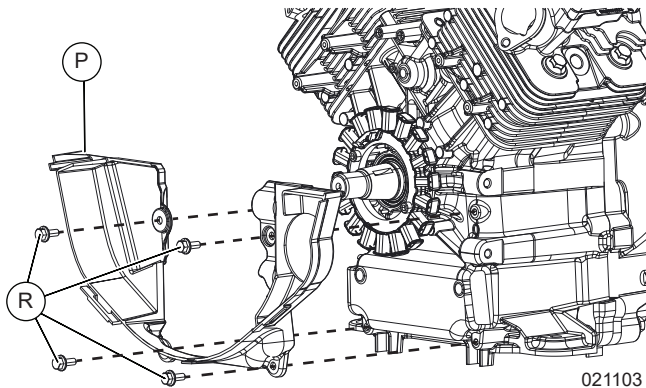

Figure 6-25. Remove Backing Plate
- See Figure 6-25. Remove four fasteners (R) and backing plate (P) from engine.